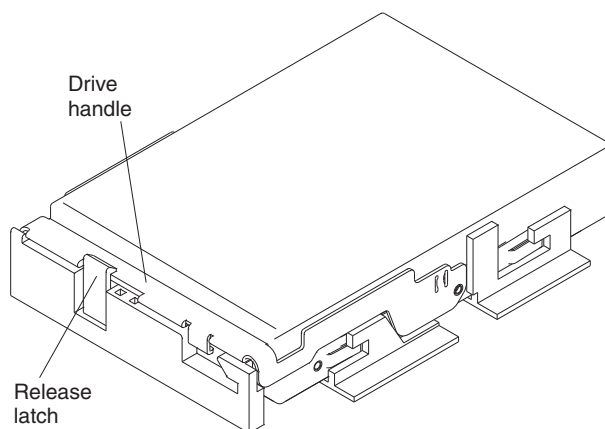

Figure 71. Locking the drive in place
- c. Lower the drive straight down; then, rotate the drive handle down until the drive snaps into place under the drive release lever. See Figure 71.